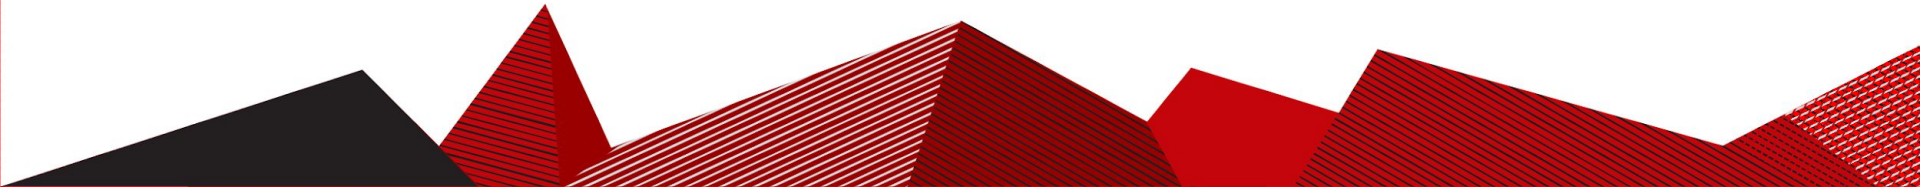

Figure 17: Nikon Eclipse TS2, the microscope used by the client
- Figure 17"Nikon Eclipse Ts2 Inverted Biological Microscope", *Microscopes.com.au*, 2020. [Online]. Available: <https://microscopes.com.au/collections/inverted/products/nikon-eclipse-ts2-inverted-biological-microscope>. [Accessed: 01- Oct- 2020].